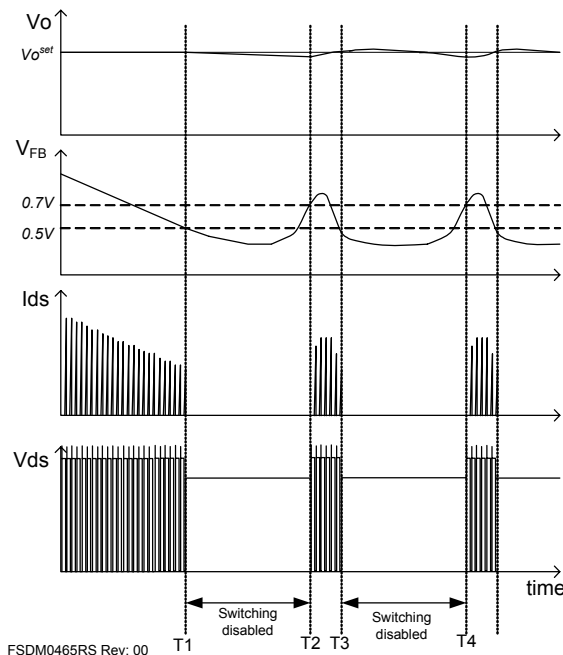

Figure 22. Waveforms of Burst Operation
5. Burst Operation: To minimize power dissipation in standby mode, the FSDM0465RS enters burst mode operation. As the load decreases, the feedback voltage decreases. As shown in Figure 22, the device automatically enters burst mode when the feedback voltage drops below $V_{BURL}(500mV)$. At this point switching stops and the output voltages start to drop at a rate dependent on standby current load. This causes the feedback voltage to rise. Once it passes $V_{BURH}(700mV)$ switching resumes. The feedback voltage then falls and the process repeats. Burst mode operation alternately enables and disables switching of the power SenseFET thereby reducing switching loss in standby mode.